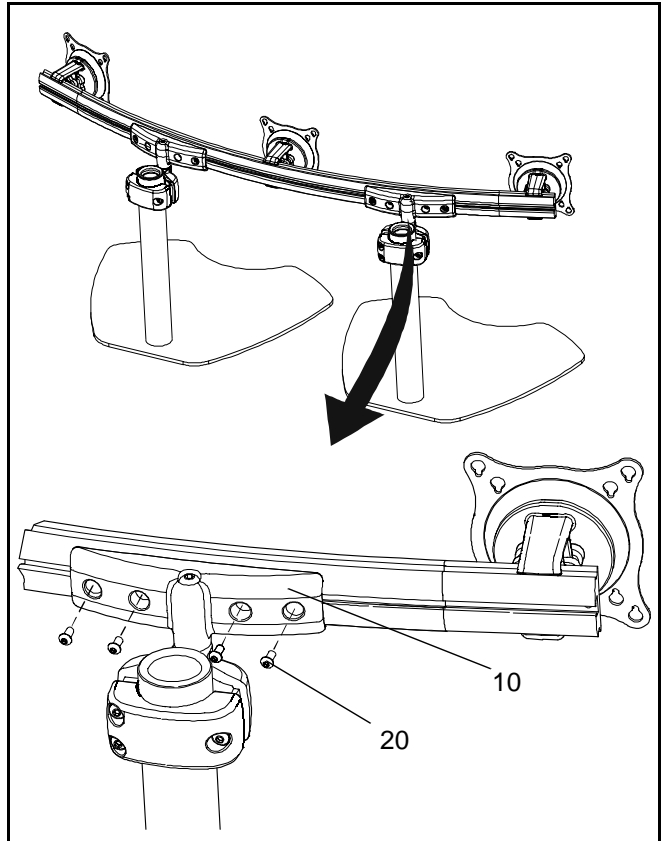

Figure 6: Position and Secure
10. Align new base assembly with new clamp accessory (10) with square nuts (30). (see Figure 6)
11. Install four button head cap screws (20) through new clamp assembly (10) and into four squares nuts (30) in array.